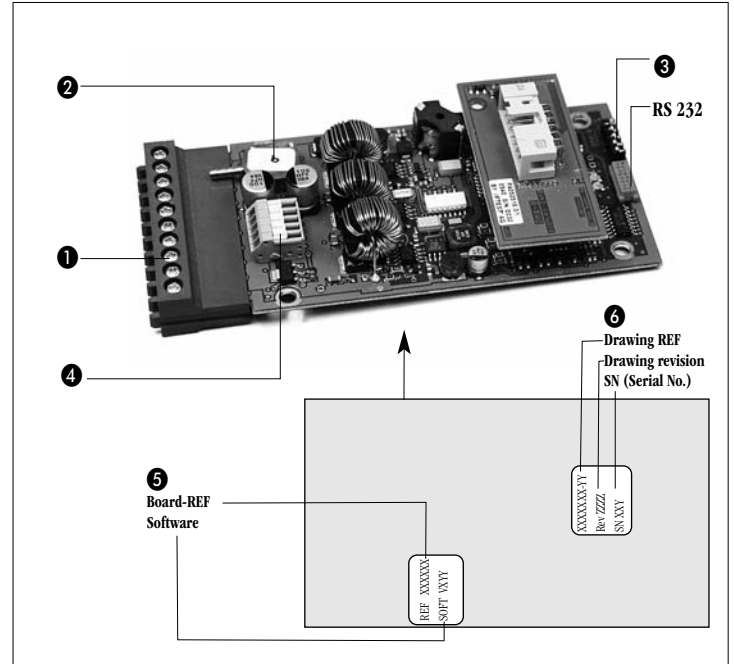
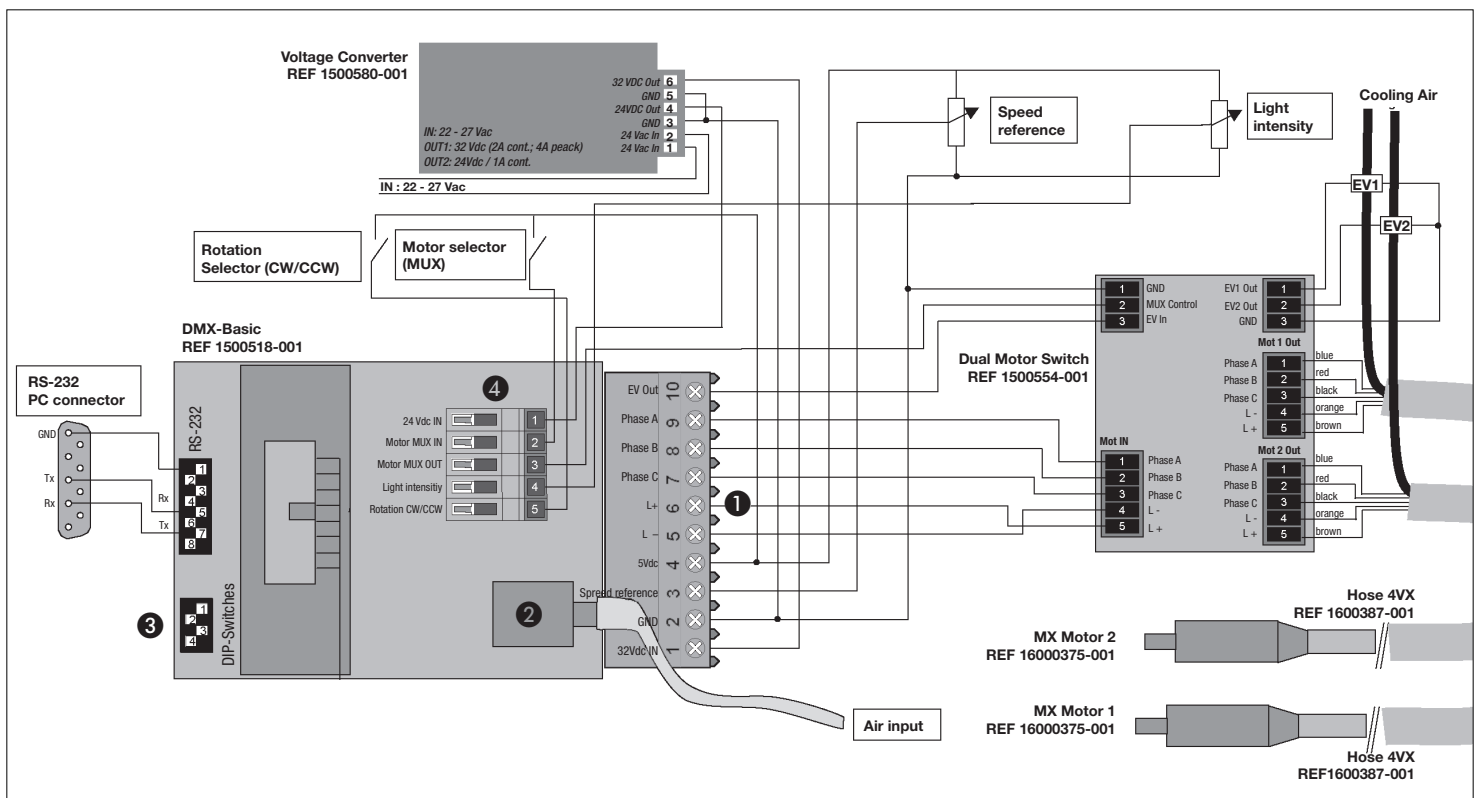

fig. 1
fig. 2
For device references, see fig. 1 ⑤ and ⑥.
see fig. 1 and fig. 2.
The general wiring diagram shows all the main connections of the complete MX system. The connections actually required depend on the integration of the MX system in the unit and the desired functions fig. 2.